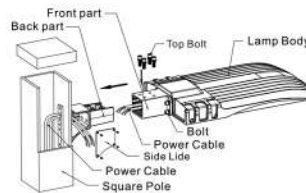

Figure 5-1
- 1: Take off the top bolt on IM bracket. Open side lid on the back part after take IM bracket apart into the front part and the back part. Let the power cable go through the front part of the IM bracket. Fix the front part to the end of lamp body with bolt. Let the pole cable go through the back part of the IM bracket. Fix the back part of the IM bracket to the pole with bolt. (Figure 5-1)